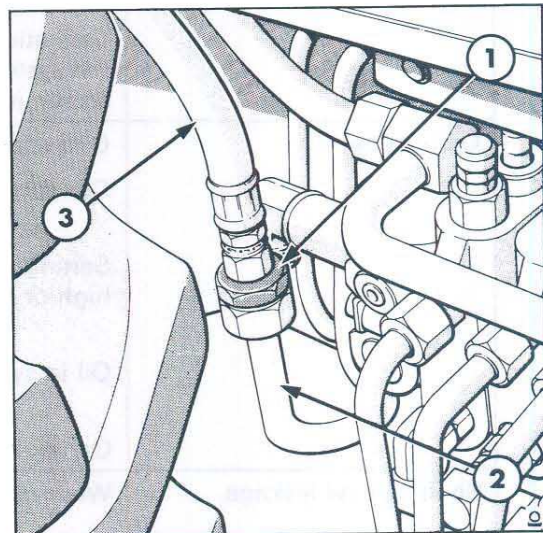

Figure 1
3. Install thread adaptors FT 820-1 into the inlet and outlet parts of hydraulic tester (flowmeter) MS 820A and connect a hose with 1¹/₁₆" JIC female ends between the inlet port of tester and adaptor FT 8557 on pump pressure feed tube. Figure 1.